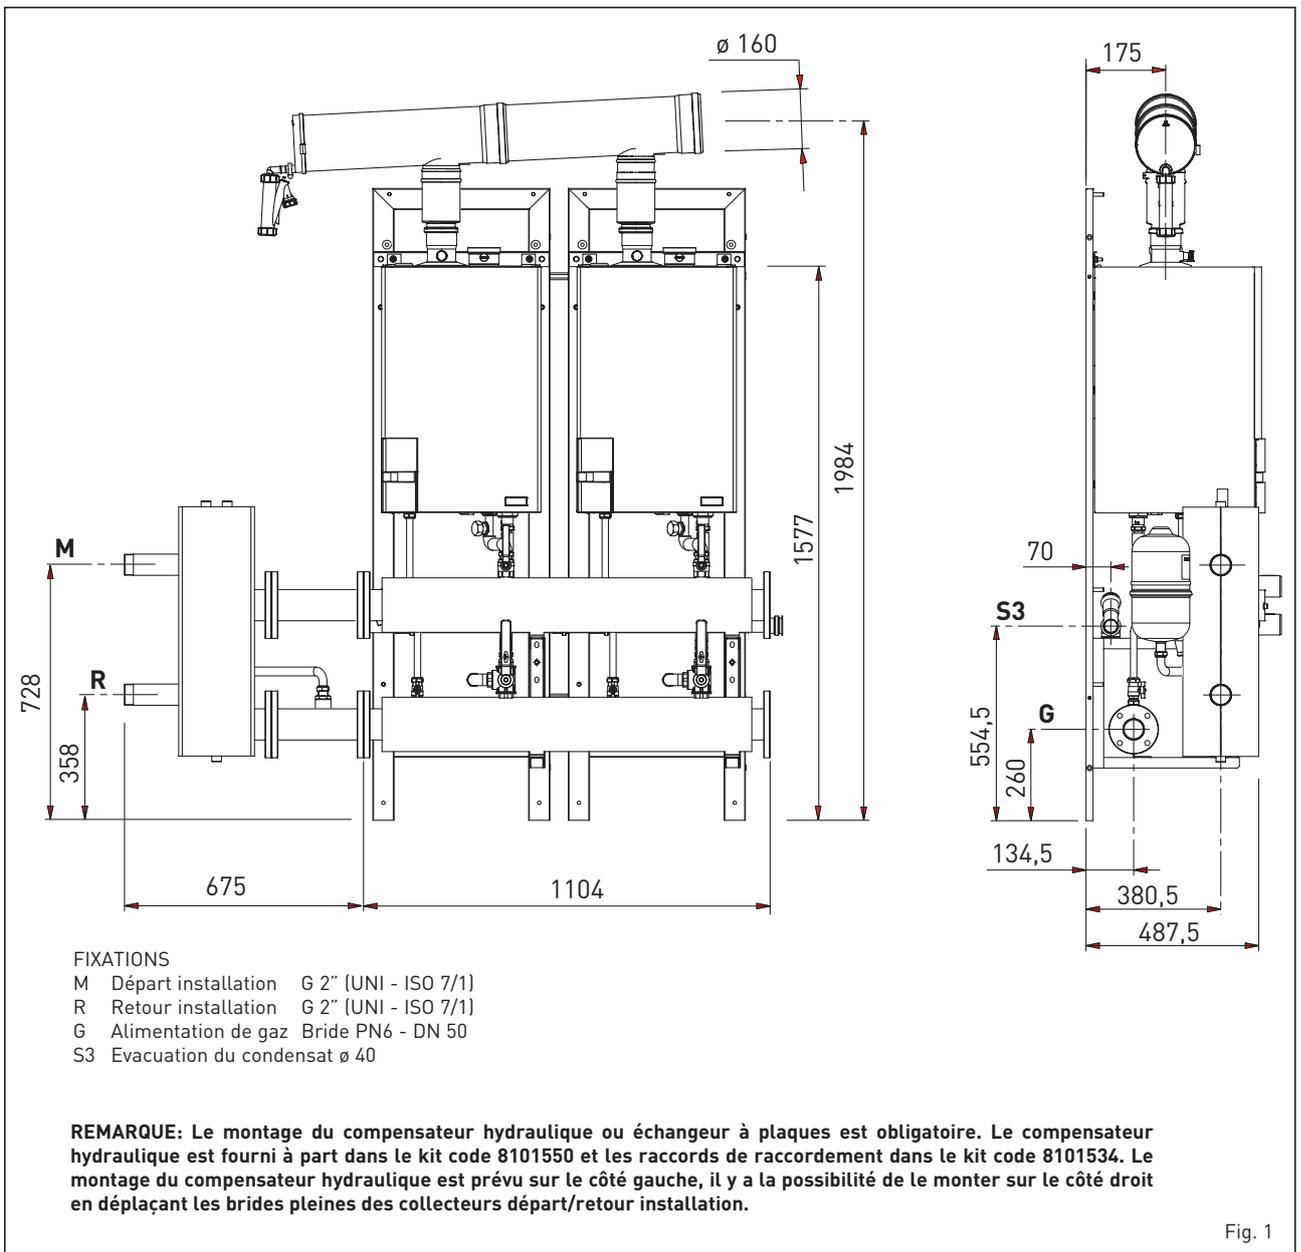

Fig. 1
1.2 DIMENSIONS ET FIXATIONS (fig. 1)